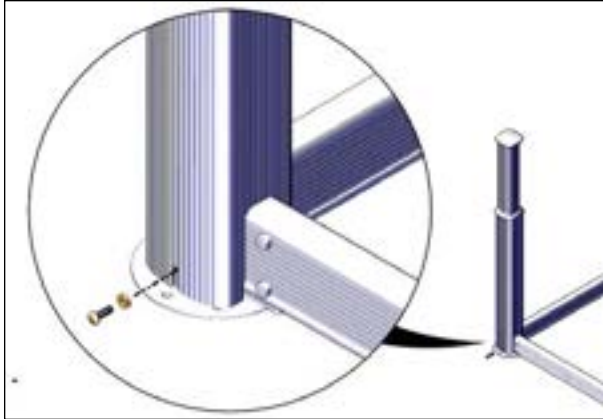

FIGURE 60: MOUNTING SCREW ON THE SLEEVE
20. Fasten the sleeve with the Phillips M6 x 20 mm screws at the bottom of all four sleeves see Figure 60.